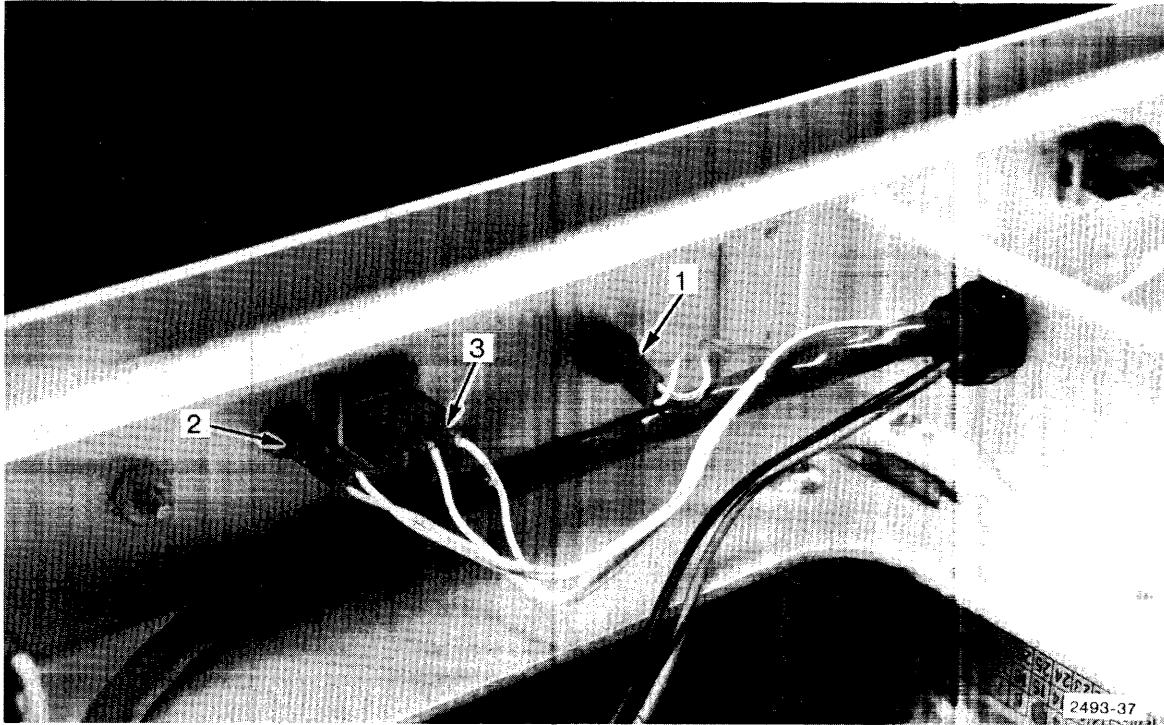

Figure 7-11. Connecting front panel leads of cable D.
- (1) Plug yellow connector into rear of the unit busy LED. Position the plug so the green and white wire is connected to the anode pin (Figure 7-11).
- (2) Plug orange connector into rear of write-protect LED (Figure 7-11). Position the plug so the red and white wire is connected to the pin next to the flat side of the LED.
- (3) Solder bare leads to write-protect switch lugs (Figure 7-11). Since polarity is unimportant, leads are interchangeable.